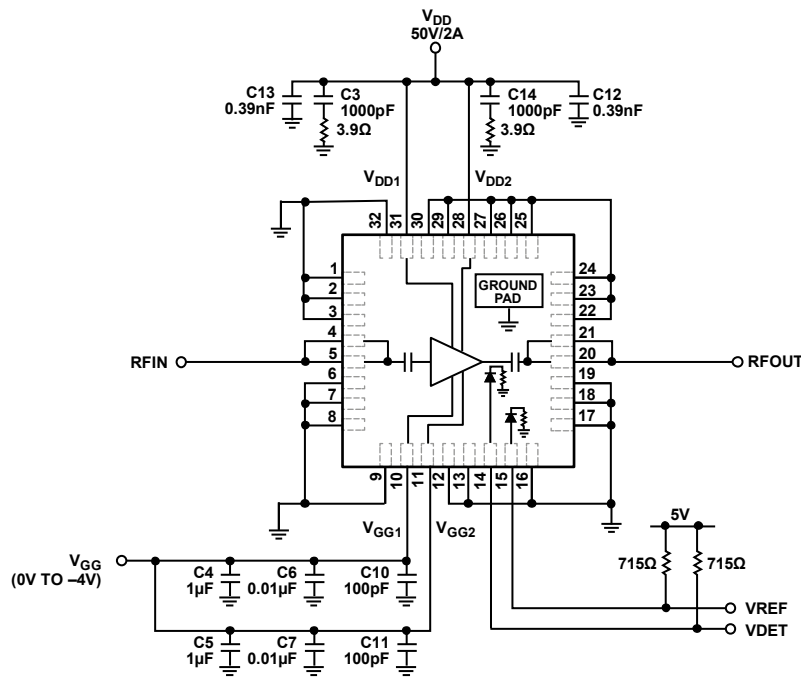

Figure 50. Basic Connection
The basic connections for operating the ADPA1105 are shown in Figure 50. Apply a power supply voltage between 20 V and 50 V to the V_{DD1} and V_{DD2} pins. Decouple each pin with the capacitor values shown in Figure 50. Place $3.9\ \Omega$ resistors in series with the two 1000 pF power supply decoupling capacitors connected to Pin 28 and Pin 31 (V_{DD2} and V_{DD1}). Tie together the two gate voltage pins, V_{GG1} and V_{GG2} , and drive the pins as shown in Figure 50. Pin 2, Pin 3, Pin 7, Pin 12, Pin 13, Pin 18, Pin 22, Pin 23, Pin 26, Pin 27, Pin 29, and Pin 30 are designated as no connect (NC) pins. Although these pins are not internally connected, the pins were all connected to ground during the characterization of the device and provide some additional thermal relief.